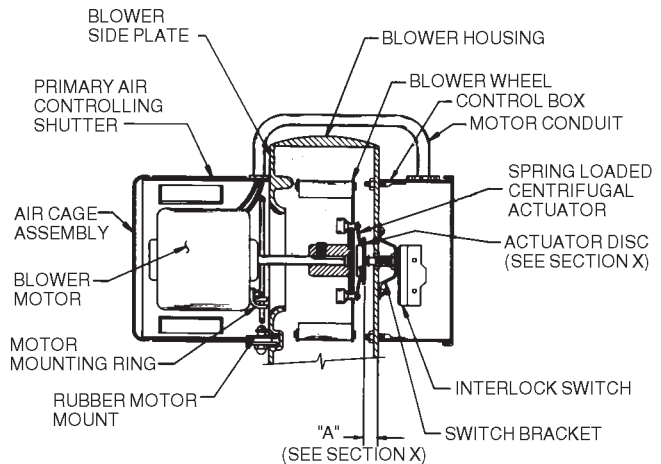

Figure 9: Blower Assembly
- B. Voltage present: check that switch bracket is screwed down tight (See Figure 9). If so, without disconnecting switch wires, remove switch bracket and manually depress switch plunger. If voltage is still present, or if the plunger has to be depressed to where dimension A of Figure 9 is less than 9/32" when switch clicks over, replace the switch.
5. If the switch tests OK, check dimension A of Figure 9 as follows: